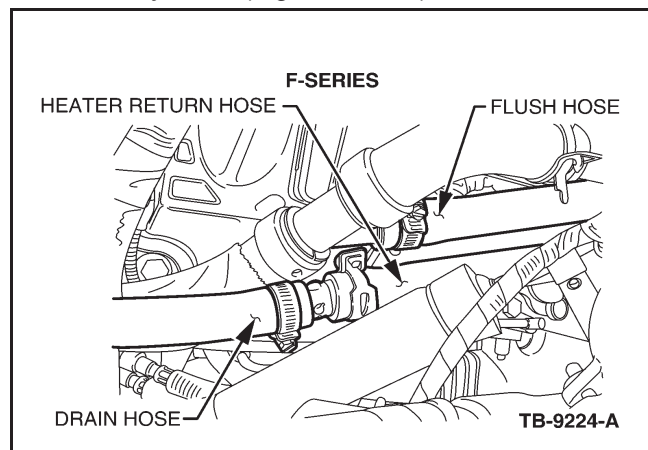

Figure 14 - Article 08-23-1
- (1) Vehicles with standard heater, disconnect the vacuum hose at the heater control valve to open the heater core flow.
- (2) Vehicles with an Electronic Automatic Temperature Control (EATC) heater, turn the ignition key to the on position and adjust the heater control to the full hot position to allow coolant flow during the cooling system flush.
19. Disconnect the flush hoses from the heater return port and heater return hose. (Figures 14 through 16)
23. Using a scan tool, select the active command and set the engine RPM to 1,175. Run the engine for one (1) hour.
- (2) Vehicles with an EATC heater, turn the ignition key to the on position and adjust the heater control to the full hot position to allow coolant flow during the cooling system flush.
30. Disconnect the flush hoses from the heater return port and heater return hose. (Figures 14 through 16)
34. Fill the cooling system with water and two (2) quarts (1.89 L) of Motorcraft® Engine Cooling System Iron Cleaner.
- a. For vehicles with auxiliary or aftermarket heaters, use three (3) quarts (2.83 L) of Motorcraft® Engine Cooling System Iron Cleaner.
45. Using a 3/4" coupling adapter and clamps, attach the drain hose to the heater return hose. (Figures 14 and 16)